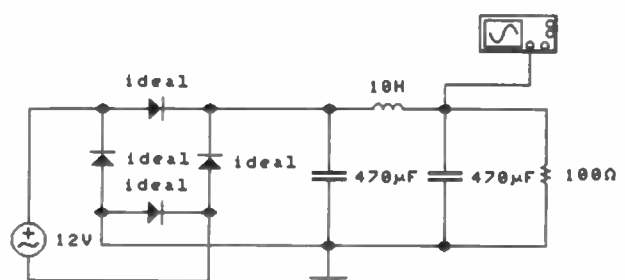

Fig. 3.34 Bridge rectifier with L-C smoothing filter.
8. Finally, modify the filter circuit by replacing the 400Ω resistor with a 10H inductor (as in Fig. 3.34). Once again, note